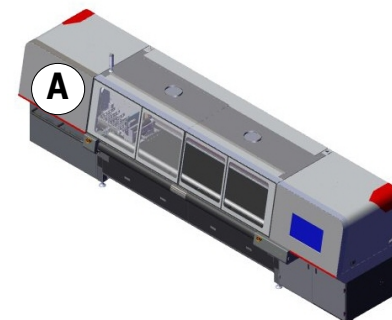

Figure 4-3 Printer Front View
2. Open the carriage compartment door, Figure 4-3 location (A).